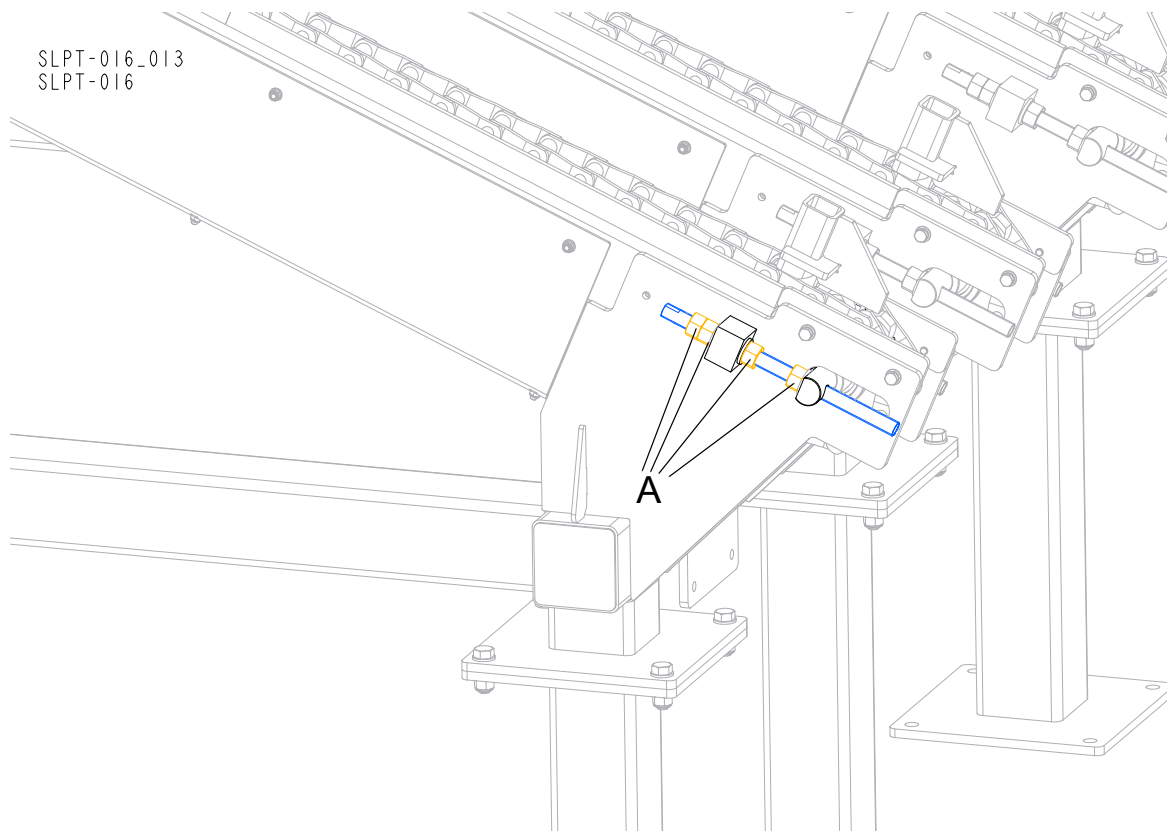

FIG. 5-22
See Figure 5-22 Tension the transport chain using the fasteners (A). Tension both sides evenly.